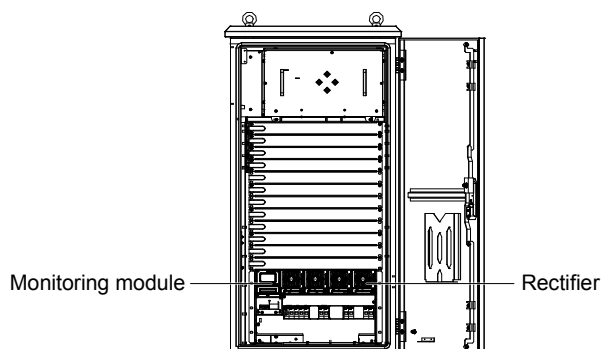

Figure 2-8 Mounted modules
2. Put the rectifier onto the guide rail (see Figure 2-8 for installation positions).
The mounted rectifiers are shown in Figure 2-8.
Press the handle of the monitoring module to pop it out, and refer to the installation steps listed above to push the monitoring module into the correct slot, as shown in Figure 2-8. Close the handle to lock the monitoring module to the cabinet.